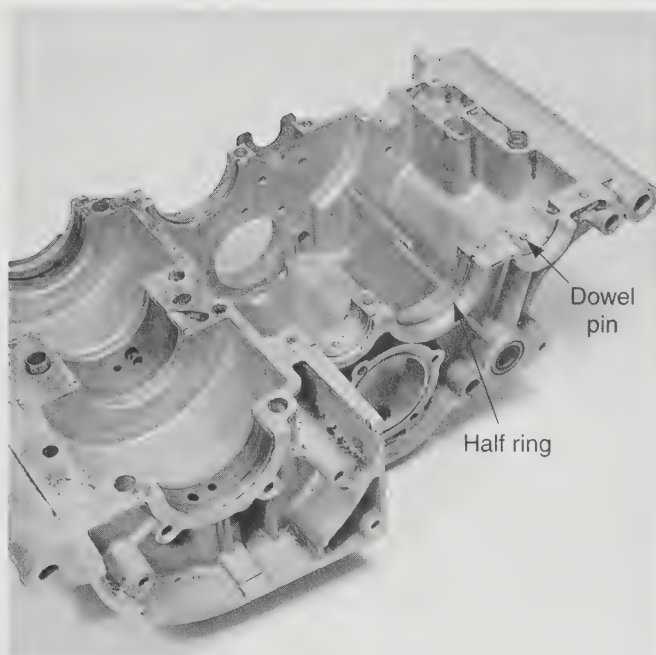

Figure 19-49. Double-check installation of bearing locating half rings, dowel pins, and plates.
5. Install bearing locating half rings, dowel pins, and plates properly, **Figure 19-49**.